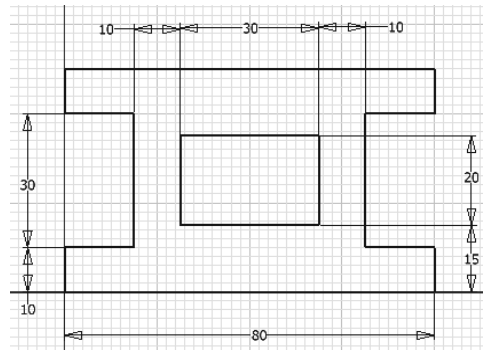

Figure 3-48 Fully constrained sketch for Tutorial 1
- Dimension the sketch by using the sketch point to fully constrain it, refer to Figure 3-48.
Figure 3-48 shows the fully constrained sketch for Tutorial 1.